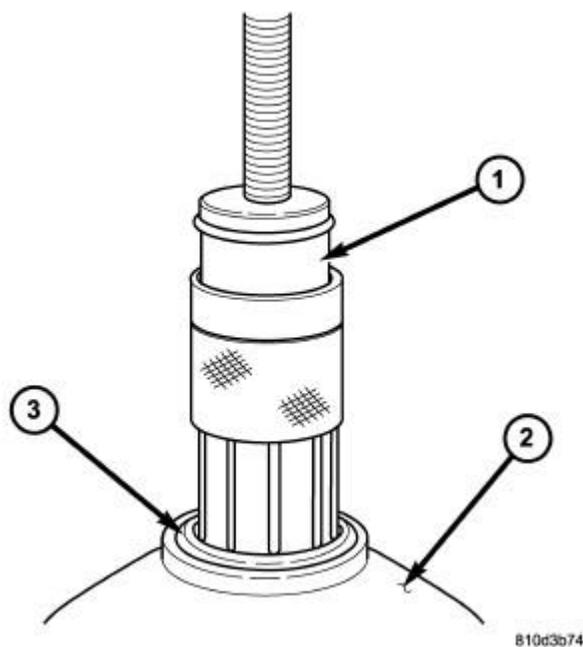

Fig. 97: Positioning Bearing Remover 9082A Over Inner Race Of Output Shaft Bearing
7. Position Bearing Remover (special tool #9082A, Remover, Bearing) (1) over the inner race of the output shaft bearing (3). Refer to **Fig. 97**.